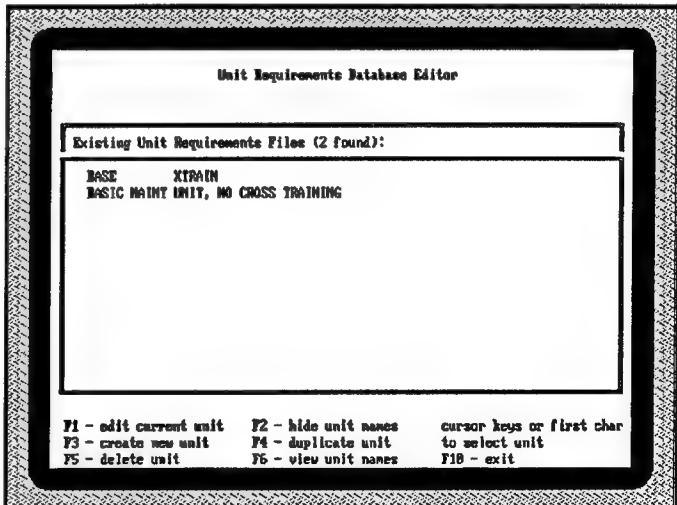

Figure 13.
**<F1> and <F2>.** Cursor through the list to highlight the unit that you wish to edit. You may display unit names as you traverse the list by pressing the <F2> key once. (Figure 13.) Strike <F2> a second time to hide the displayed names. Press the <F1> key when you have highlighted the unit that you wish to edit. The screen will display the manning requirements for the selected unit. (Figure 14.)